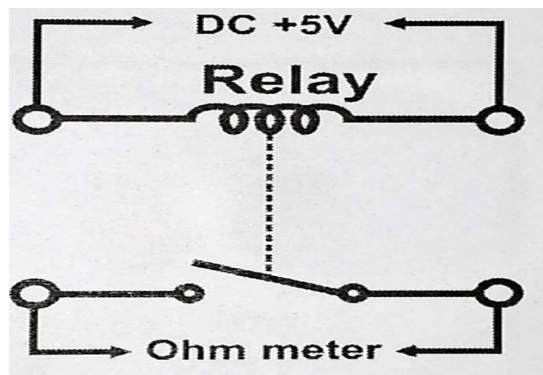

Figure 4.4: Measuring Resistance of Reed Switch
5. Measure the resistance of the switch as shown in the Figure 4.4 and record in the Table 4.1.